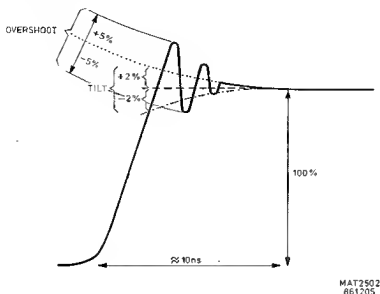

Figure 9.5 HF-pulse response.
- Adjust the square-wave response of Ch. A (Ch. B) with R7512 and R7513 on unit A33 (R7712 and R7713 on unit A33) so that overshoot + ringing does not exceed  $\pm 5\%$  during the first 10 nsec of the pulse. The tilt must not exceed  $\pm 2\%$ . Figure 9.5 explains this.